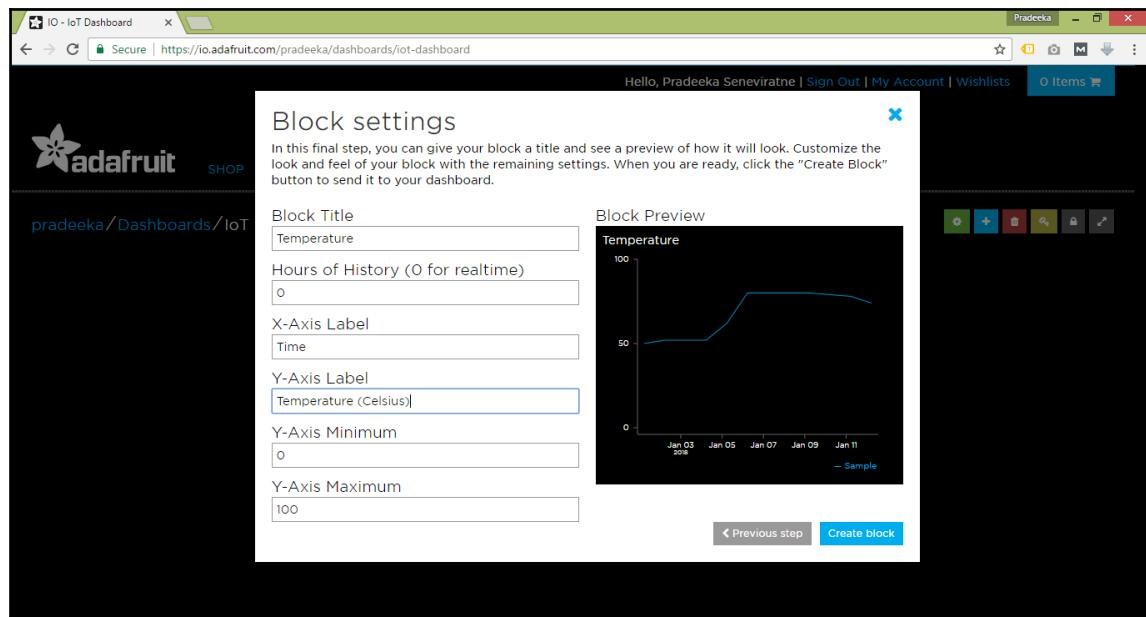

Figure 4-16: Block settings for Line Chart
4. In the **Block settings** dialog box (Figure 4-16), type the following labels for the X-axis and Y-axis: